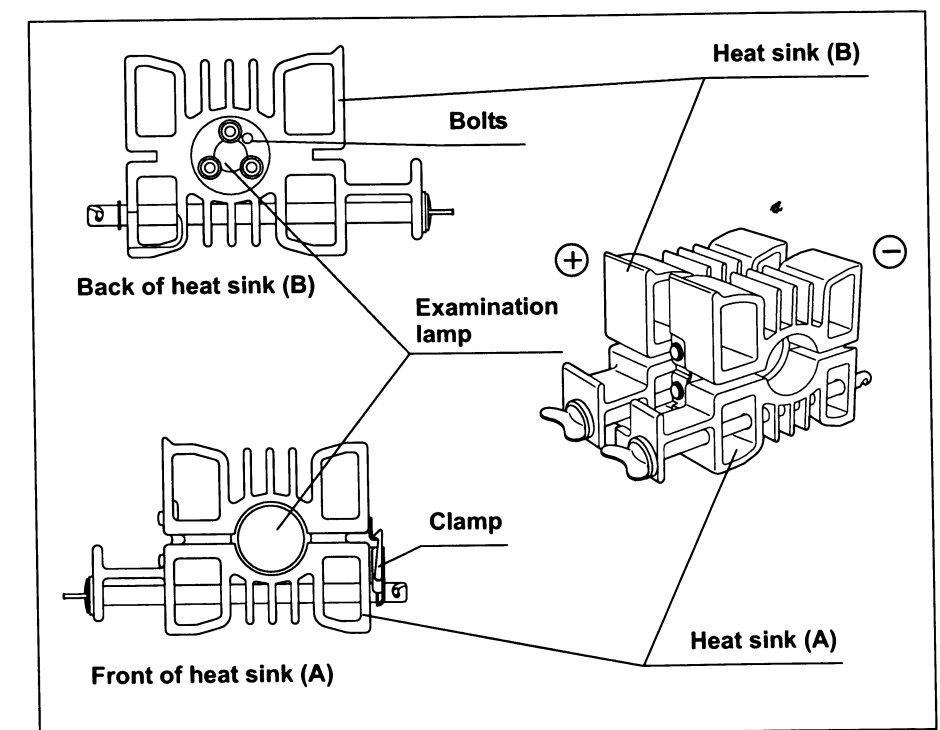

Figure 5.5
10. Using the hexagon wrench, loosen the three bolts on heat sink (B) (on the "+" side of the examination lamp or heat sink (B)) and remove heat sink (B) from the examination lamp (see Figure 5.5).